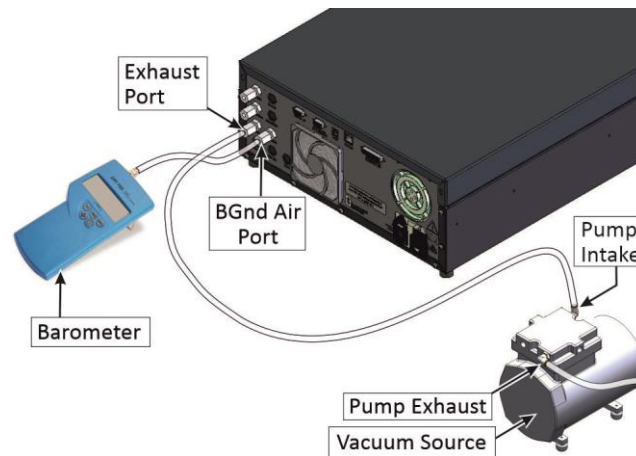

Figure 110 – Full Pressure Calibration Set-up
5. Refer to Figure 110. Connect a barometer to the **BGnd Air Port**.
6. Refer to Figure 110. Connect a vacuum source to **Exhaust Port** of instrument.